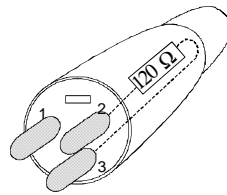

Figure 1.5 Terminator Construction
2. Solder a 120  $\Omega$  resistor between pins 2 and 3. Refer to Figure 1.5.